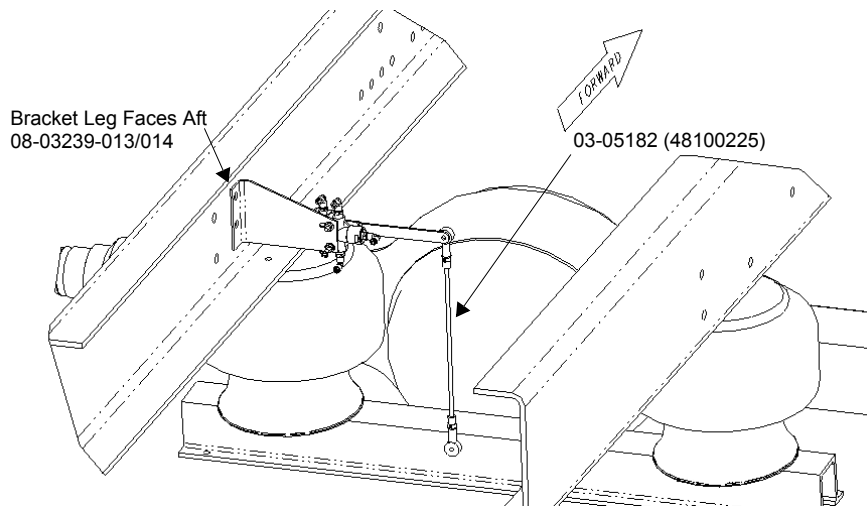
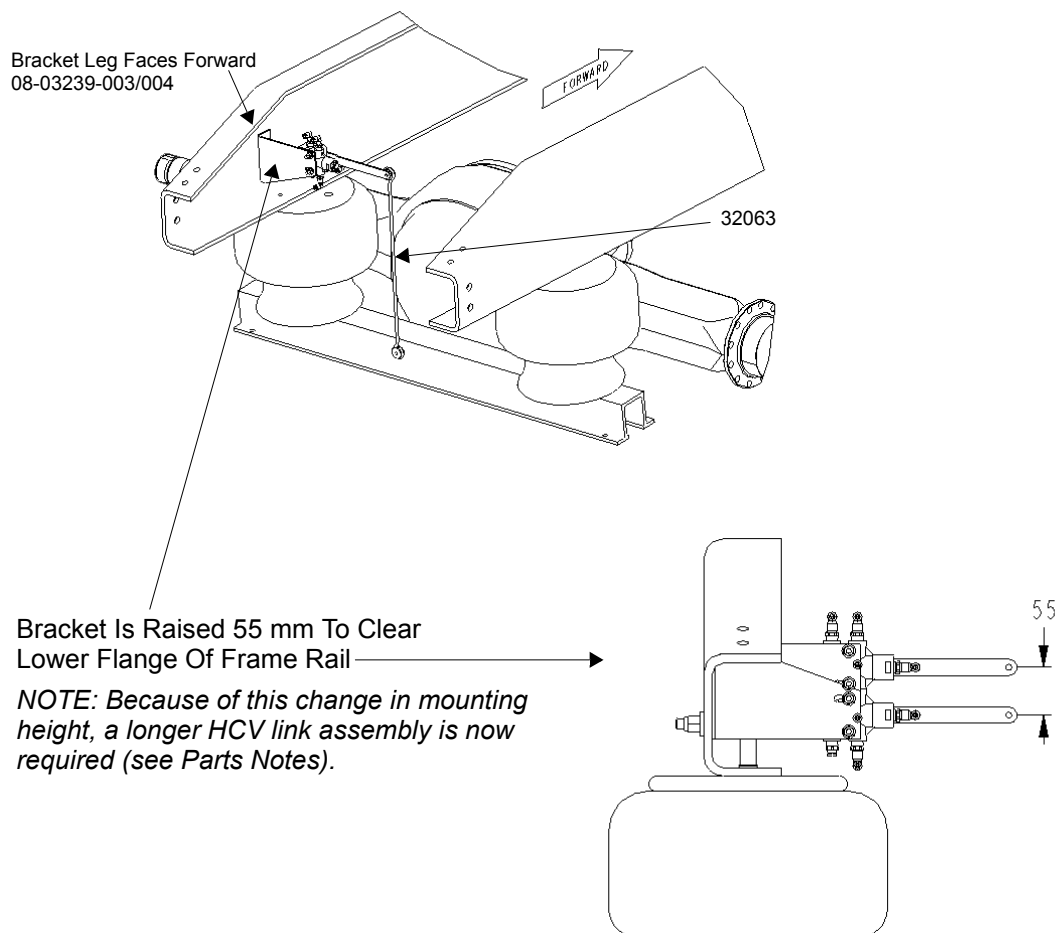

Figure 1 Illustration of *FLEX* Air HCV Mounting Bracket Installation Before 12/17/01
Figure 2 Illustration of *FLEX* Air HCV Mounting Bracket Installation On And After 12/17/01
A design improvement that enhances the overall FLEX Air suspension installation was implemented in production on December 17, 2001. The location and orientation of the HCV mounting bracket was changed so that future FLEX Air suspensions will now use the same HCV/bracket assembly as do all other Peterbilt proprietary rear air suspensions (see Parts Notes below). Figures 1 through 4 illustrate these changes:
- Figure 1 and Figure 2 illustrate the original and revised HCV mounting bracket locations, respectively. The bracket is now inverted (the bracket leg now faces forward) and is mounted higher on the frame rail to clear the lower flange of the frame rail. [NOTE: Because of this change in mounting height, the vehicles noted above require a new, longer HCV link assembly (see Parts Notes below).]